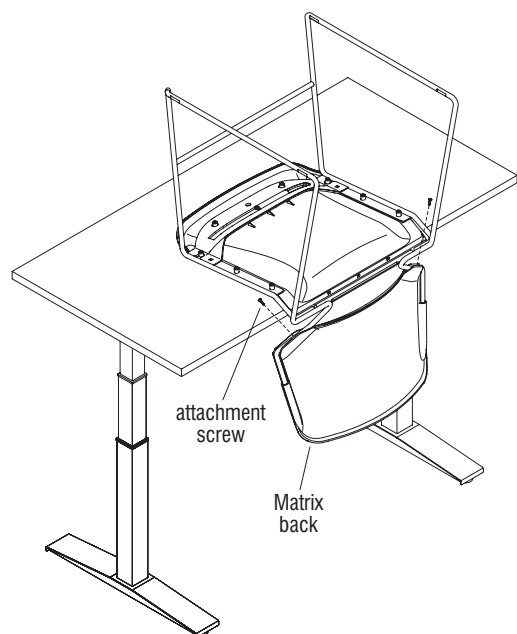

Figure 1
1. Place the Matrix chair upside down with the seat portion resting on a sturdy surface (table) (Figure 1).
2. Remove the existing Matrix back by unscrewing the two attachment screws located along the bottom edge of the back (Figure 1).